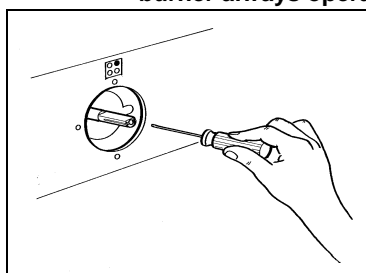
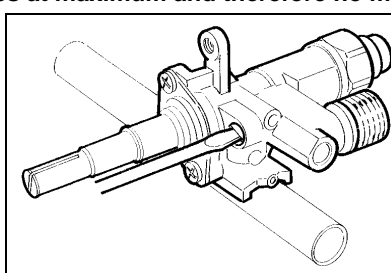

Fig. 13
Fig. 14
- 3) If the cooker is not equipped with safety valves on the surface burners, insert a small slotted screwdriver into the hole on the valve rod (Fig. 13) and turn the choke screw to the right or left until the burner flame is adjusted to minimum. If the cooker is equipped with safety valves, the choke valve is not located in the rod hole, but on the valve body (see fig. 14).